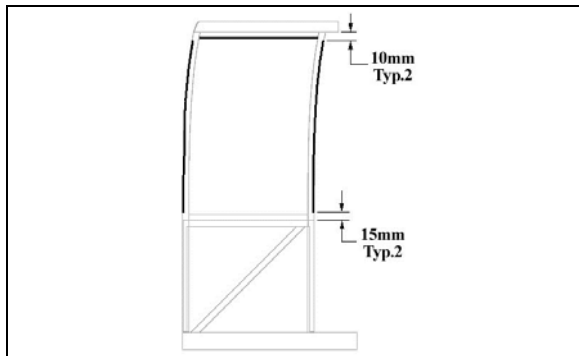

FIGURE 56 : SIDE WINDOW – ¼ X ½ DOUBLE FACE ADHESIVE TAPE INSTALLATION
3. Apply 1/4" X 1/2" double face self adhesive tape on the slide-out structure for side fixed window (see FIGURE 56) [10mm≈3/8"] [15mm≈19/32"];